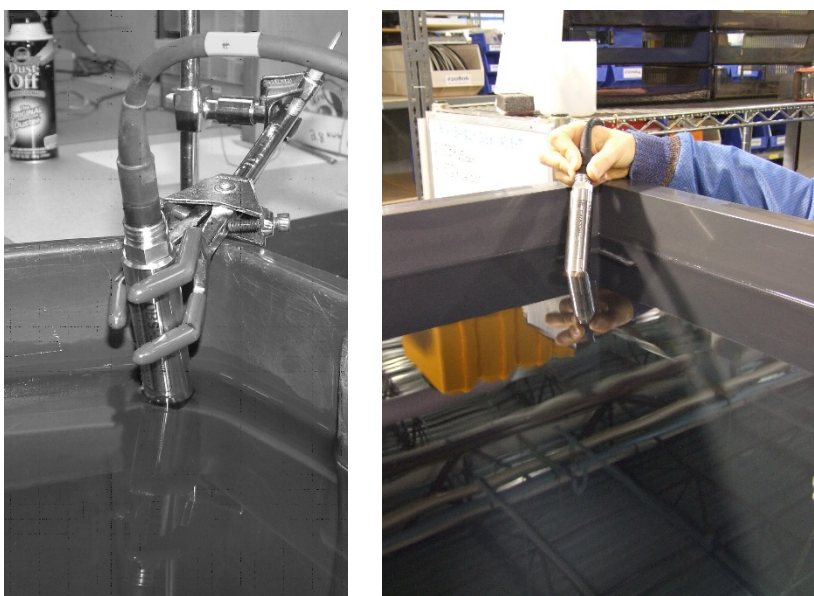

FIGURE 8-2. Position of OBS-3+ (left) and OBS300 (right) in clean tap water in big black tub
1. In a large black tub of fresh tap water, aim the OBS sensor so that it's the maximum distance from the sensor optics to the far corner of the tub (see FIGURE 8-2). Record a 10-second average of the low-range output. Record the average output on the calibration log sheet.
1. Record and log the clean-water signal as in Step 1, Section 8.1.3, *Procedure*; see FIGURE 8-2.